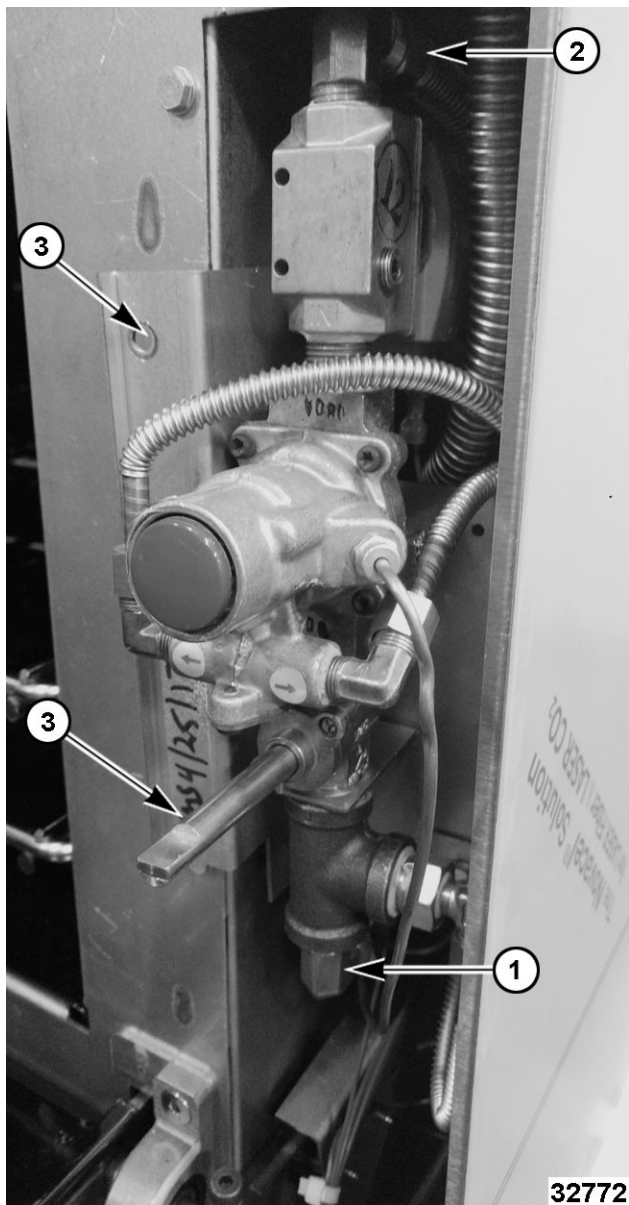

Fig. 24
3. Disconnect flex line from tee fitting (1, Fig. 24) below manual gas shut-off valve.
4. Disconnect flex line (2, Fig. 24) from top of solenoid.
5. Remove screws (3, Fig. 24) securing gas mount bracket.